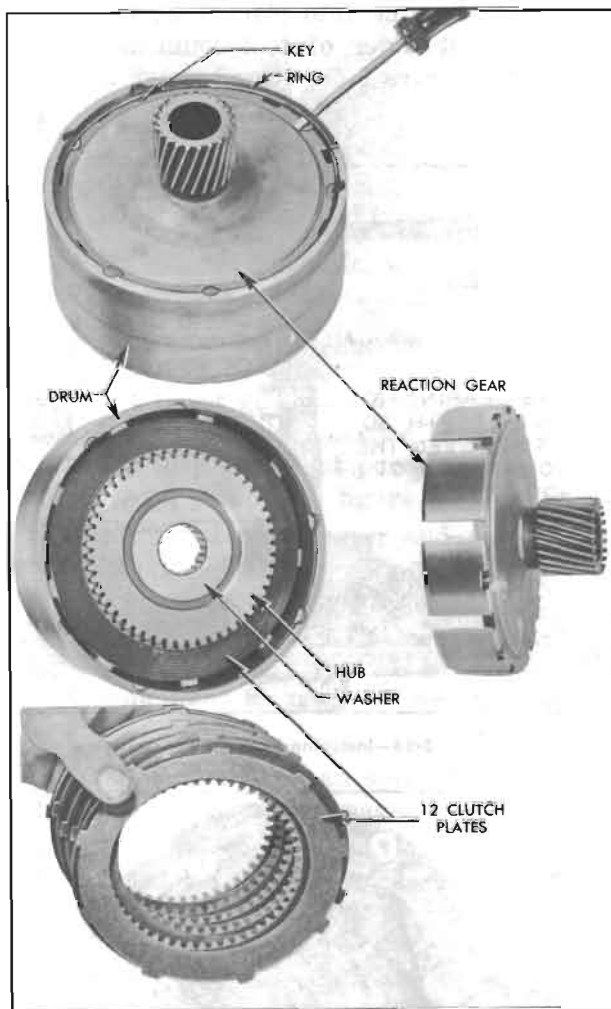

Figure 5-72—Removal of Reaction Gear, Hub, and Plates
1. Remove reaction gear flange retainer ring with screwdriver and remove the 6 flange driving keys with pointed tool. See figure 5-72.
2. Remove the low range reaction gear, thrust washer, clutch hub, and 12 clutch plates from drum. See figure 5-72.